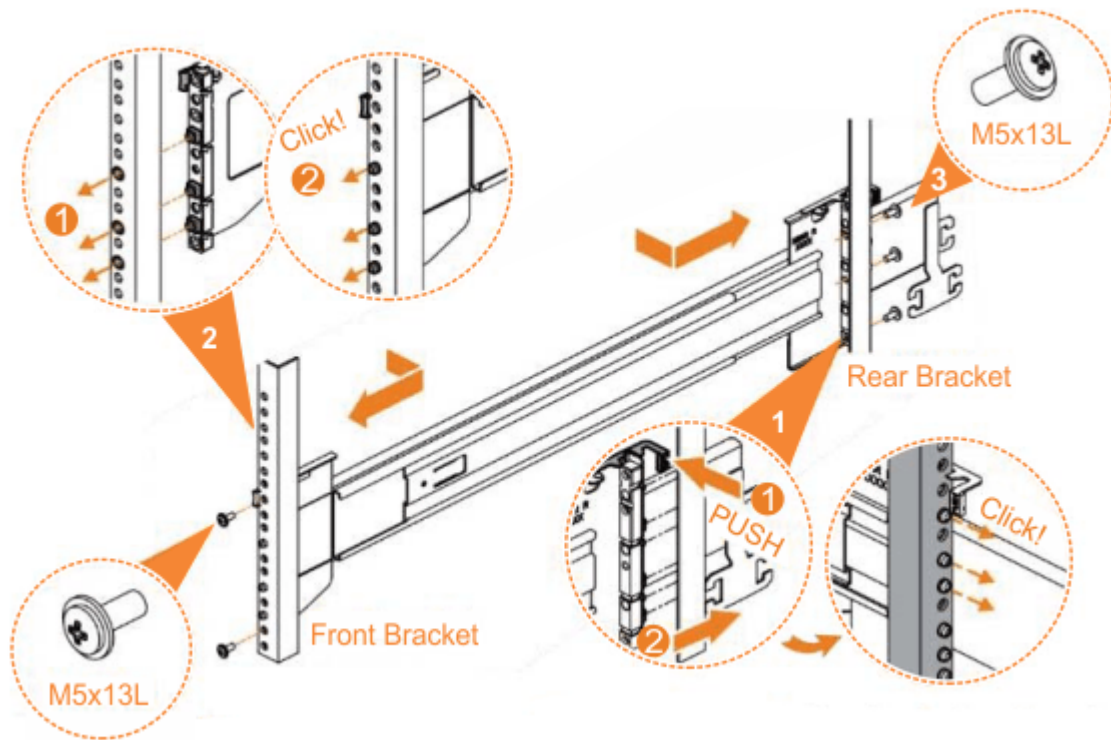

Figure 37. Installing the rail assembly to the rack frame
6. Use the M5 screws to install the outer rail member and bracket assembly to the rack, as shown in Figure 37 on page 56.